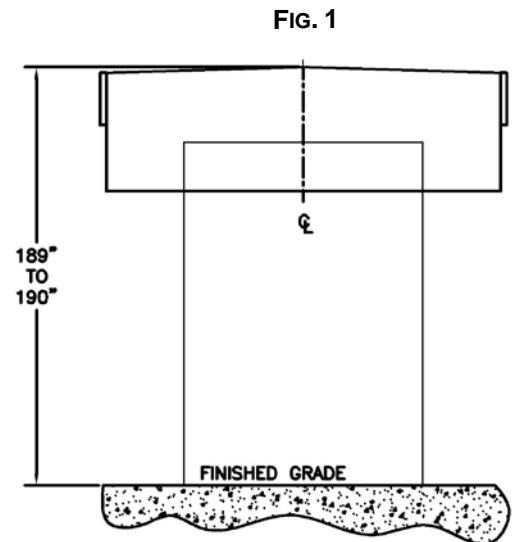

FIG. 2
b. Determine customer specified height of head frame (Figs. 2 & 3).